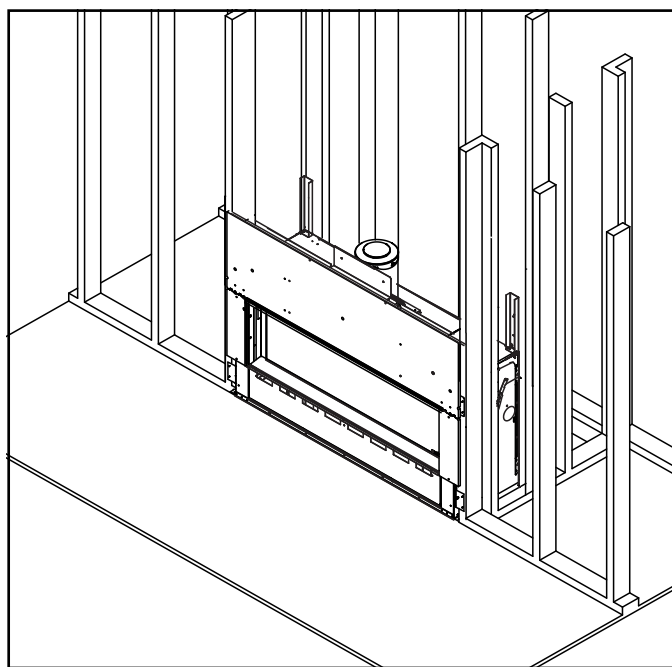

Figure 3.5 Floor Protection
**Note:** Figure 3.3 and Figure 3.4, and Figure 3.5 show the fireplace installed on the floor. However, this fireplace can be elevated off the floor provided that the fireplace is properly supported by framing materials and the ceiling clearances are maintained.